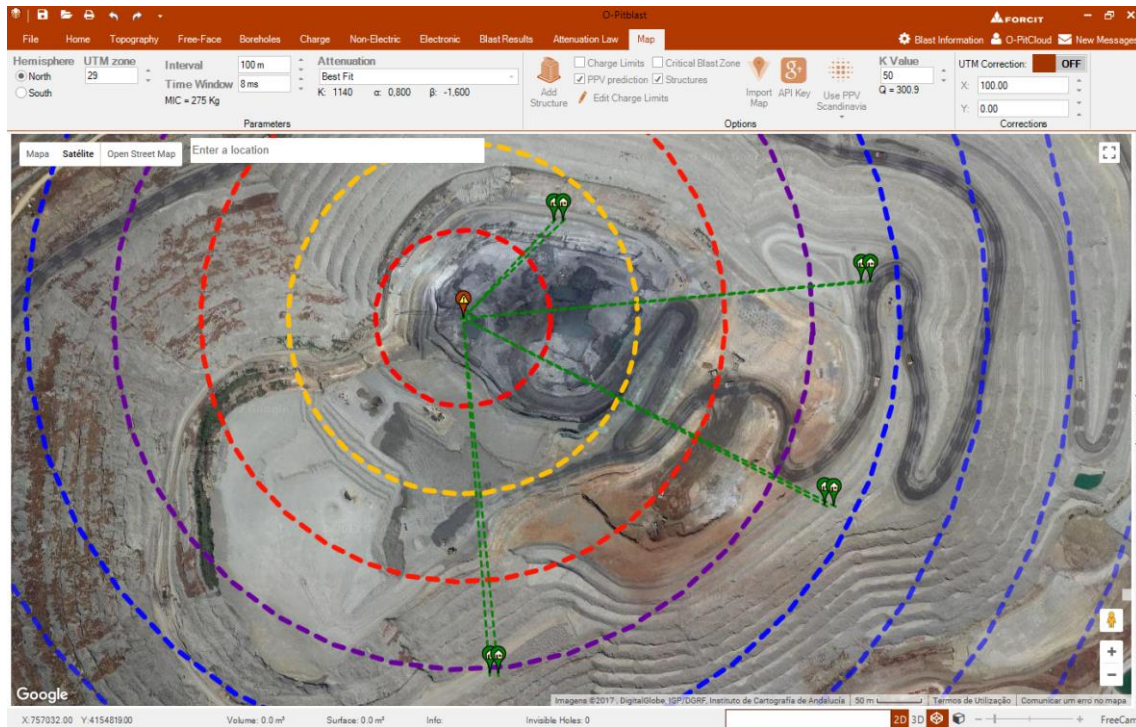

Fig. 324 – Creating new structures (10 meters aside)
- Change the position (by 10 meters): will create a new structure 10 meters aside of the other one - Fig. 324;